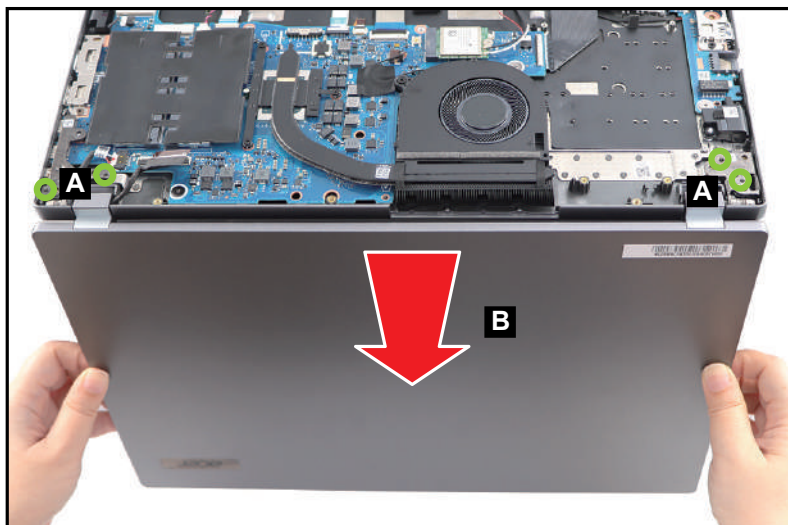

Figure 3-136. Replacing the LCD Module
1. By aligning with the guide pins (A), place the LCD hinges of the LCD module (B) onto the top assembly as shown in Figure 3-136.